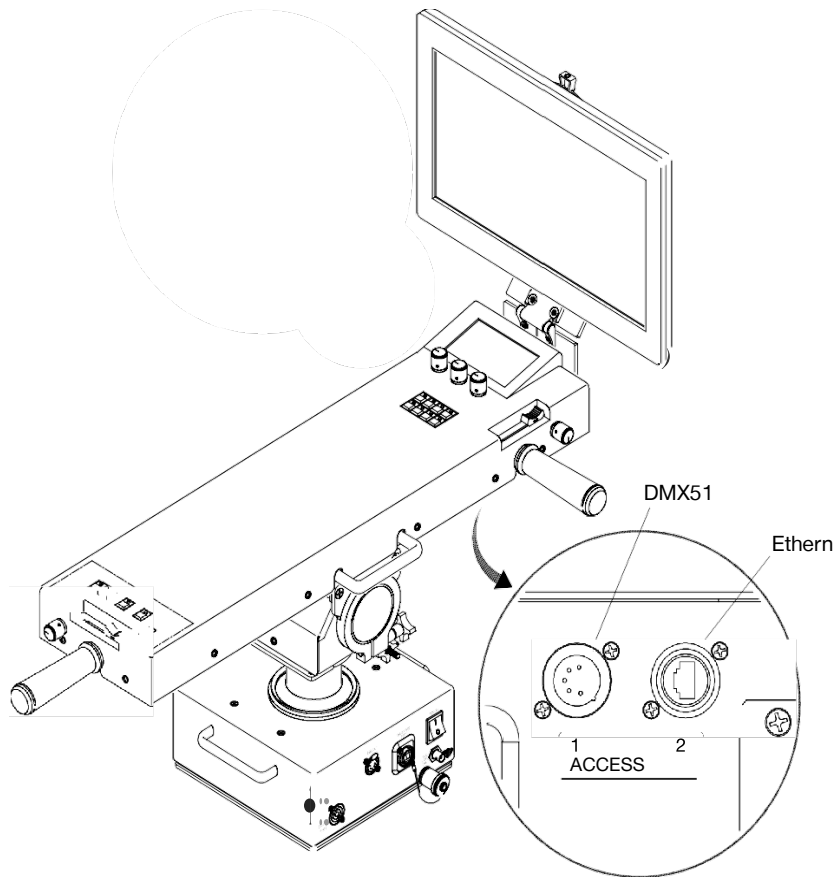

Figure 1-3: Access Ports
Step 2. Connect Ethernet cable between computer and Control Arm (Controller) Access Port 2 (Figure 1-3).
Step 2. Connect an XLR cable between a Node+, a Supernode or S400 device and the Control Arm Access Port 1 (Figure 1-3)